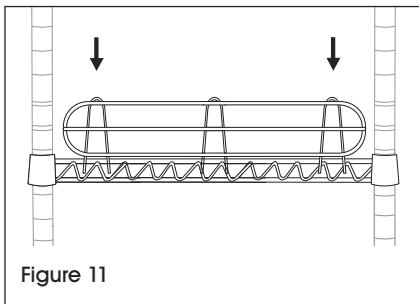

Figure 11
4. Attach long shelf ledges to the back side of cart, leaving top shelf empty. (See Figure 11)